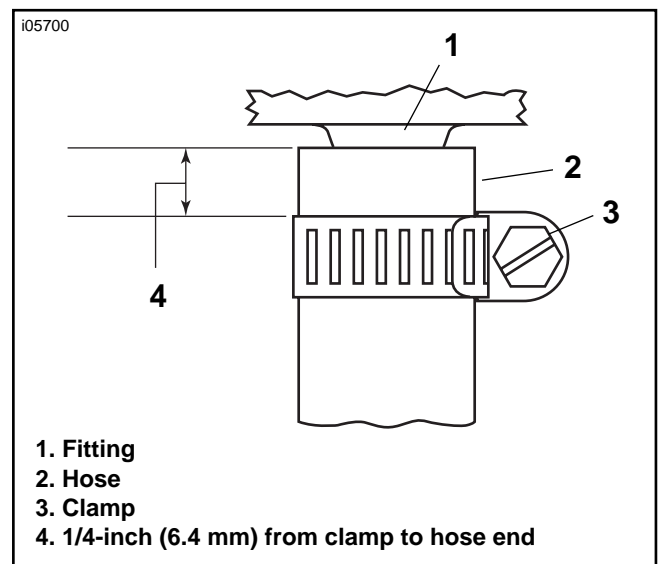

Figure 4. Installing Hoses and Clamps
See Figure 4. When performing Step 20 and when installing hoses at all clamp locations, note the following: with hose (2) pushed to the bottom of the fitting (1), the clamp (3) must be positioned and tightened onto the hose as shown.